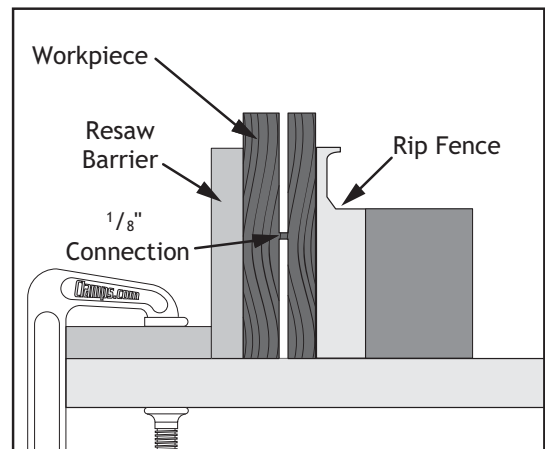

Figure 88. Ideal completed resaw cut.
4. Place the workpiece against the fence and slide the resaw barrier against the workpiece. Now clamp the resaw barrier to the top of the table saw (see **Figure 88**).
6. Raise the blade approximately an inch, or close to half the height of the workpiece (Figure 88), which ever is less.
9. Repeat Steps 6-8 until the blade is close to half of the height of the board to be resawn. The ideal completed resaw cut will leave an 1/8" connection when the resawing is complete as shown in Figure 88. Leaving an 1/8" connection will reduce the risk of kickback.